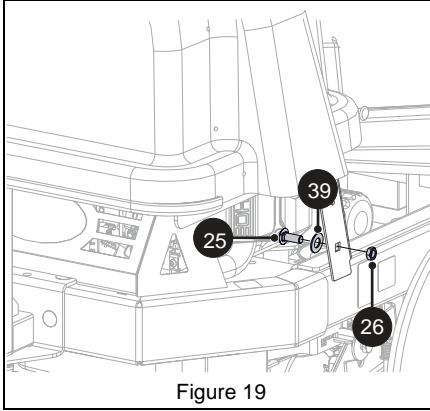

Figure 19
1. Install 3/8" x 1" round head square neck bolt (item 25) through one 1/2" x 1" flat steel washer (item 39) and square hole in frame and secure with 3/8" jam nut (item 26). See Figure 19.